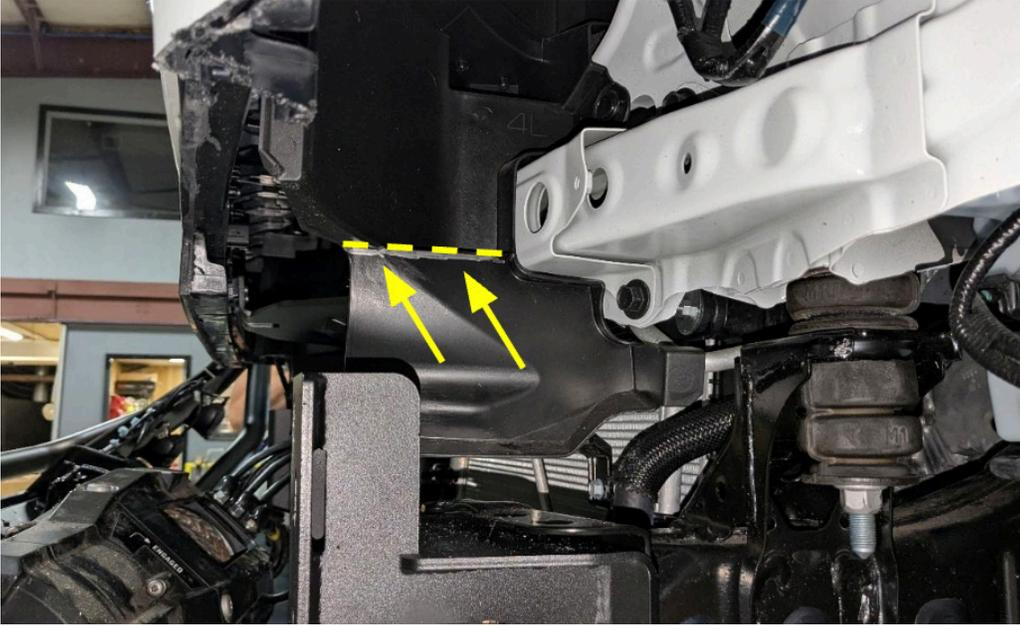

Figure 45
32. Using a small reciprocation saw, trim the plastic air dams above the frame rails. (Figure 45)